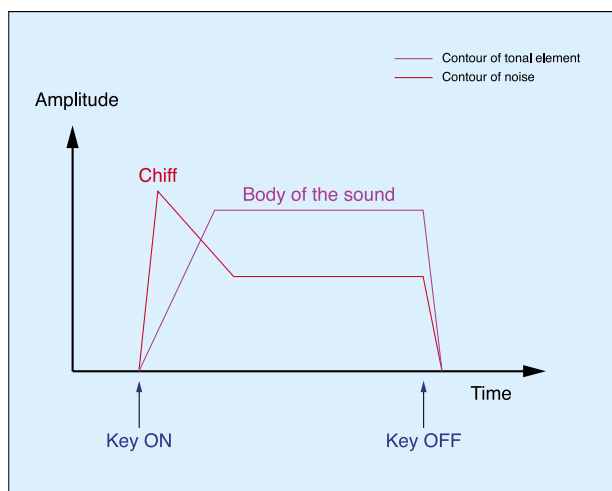

Figure 15: The contours for the noise signal and the pitched signal.
- Attack-Decay-Sustain-Release) envelopes, inserting a tiny delay before the onset of the Attack phase. Unfortunately, few synths have these envelopes, but we can get away with a simple ADSR if the Attack value is carefully chosen. Figure 15, below, shows how the two contours combine the wave and the noise into the composite sound.